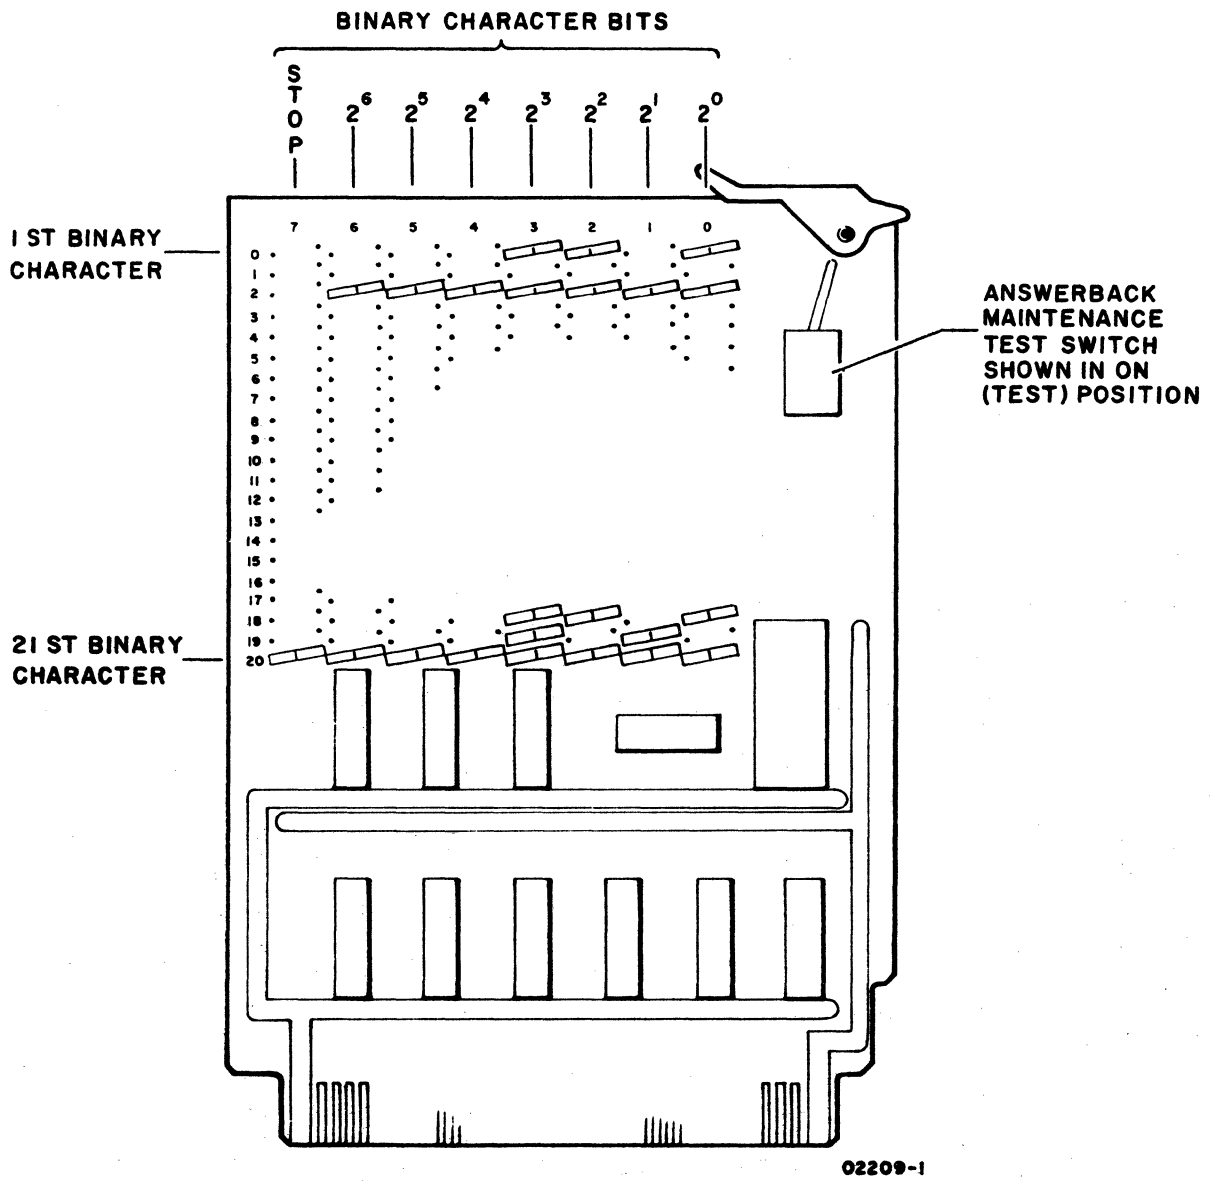

Figure CRT63. Answerback Pluggable-Diode Matrix Coding
- 2) Hold card carefully in position shown in figure CRT63 and read the binary value of each of the 21 possible characters. A diode plugged in across a bit position in a character row = binary 1 and no diode present = binary 0; thus figure CRT63 shows diode placement for the standard code sequence provided in an answerback card from the factory. This sequence is: